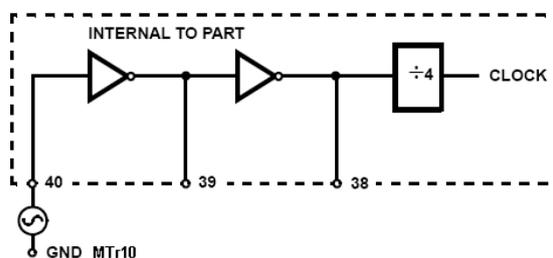

FIGURE 4A
1. Figure 4A. An external oscillator connected to pin 40.